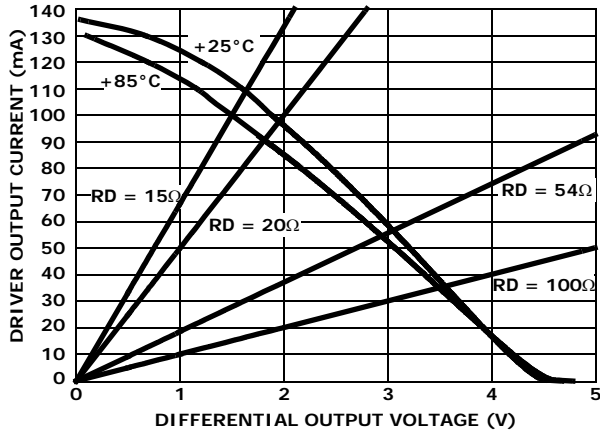

FIGURE 8. DRIVER OUTPUT CURRENT vs DIFFERENTIAL OUTPUT VOLTAGE
- See Figure 8 for more information, and for performance over-temperature.
Figure 8, details the transmitter's V_{OD} vs I_{OUT} characteristic, and includes load lines for six (20Ω) and eight (15Ω) 120Ω terminations. The figure shows that the driver typically delivers 1.65/1.5V into 6/8 terminations, even at the worst case temperature of $+85^\circ\text{C}$. The RS-485 standard requires a minimum 1.5V V_{OD} into two terminations, but the ISL315xE delivers RS-485 voltage levels with 3x to 4x the number of terminations.